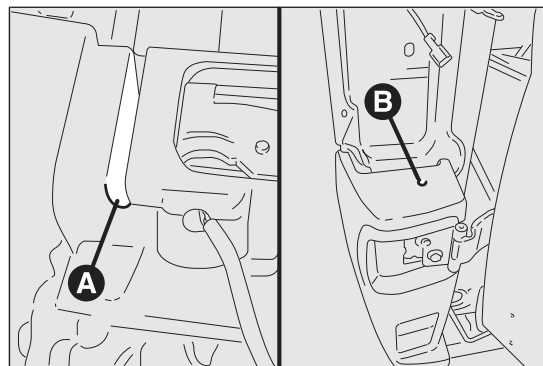

fig. 201
- ☐ unscrew lower fastening A between central and side bumper fig. 201 ;